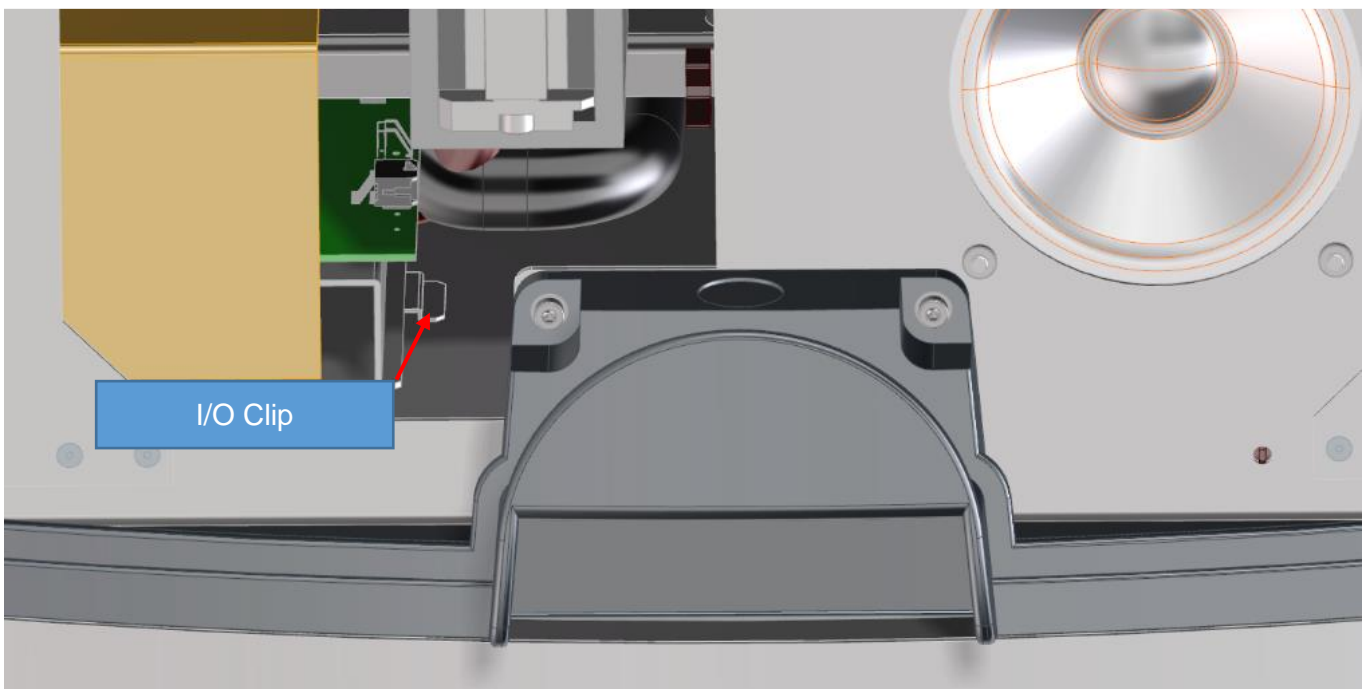

Figure 5: I/O Clip
8. Slide the I/O assembly into the leak detector and ensure that the I/O bracket engages the clip at the base of the leak detector (“Figure 5: I/O Clip”)